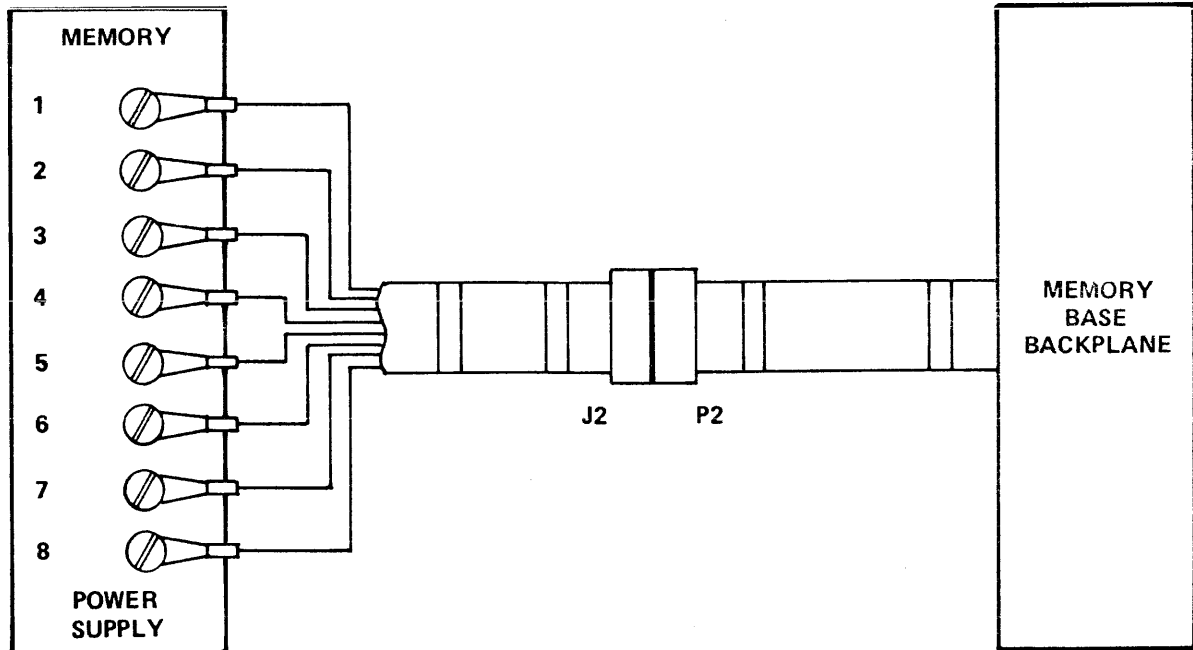

Figure 6-14. Memory Supply Output Connections
- d. Connect the memory voltage distribution cable from the newly-installed memory base backplane to the memory voltage cable from the supply (the two have mating connections). Refer to figure 6-14. Route the cable as shown in figure 6-13.